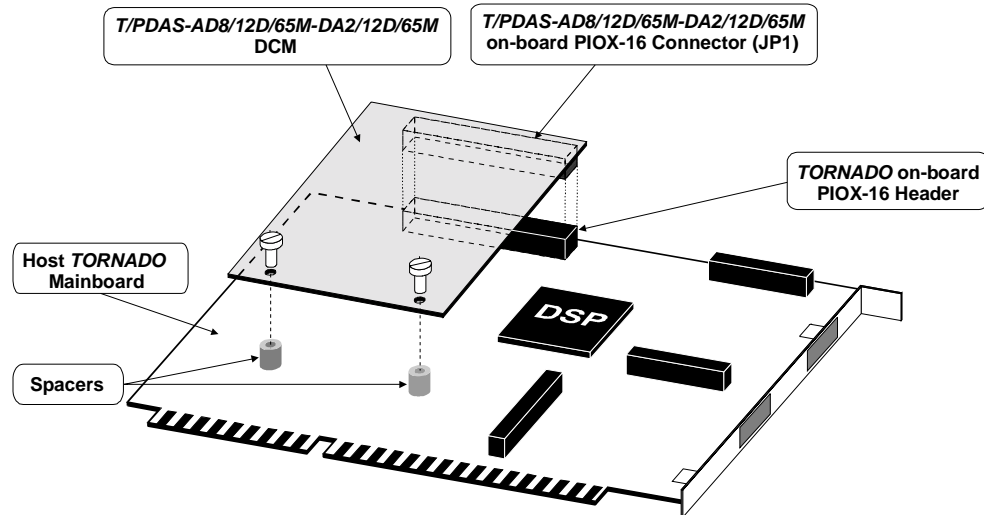
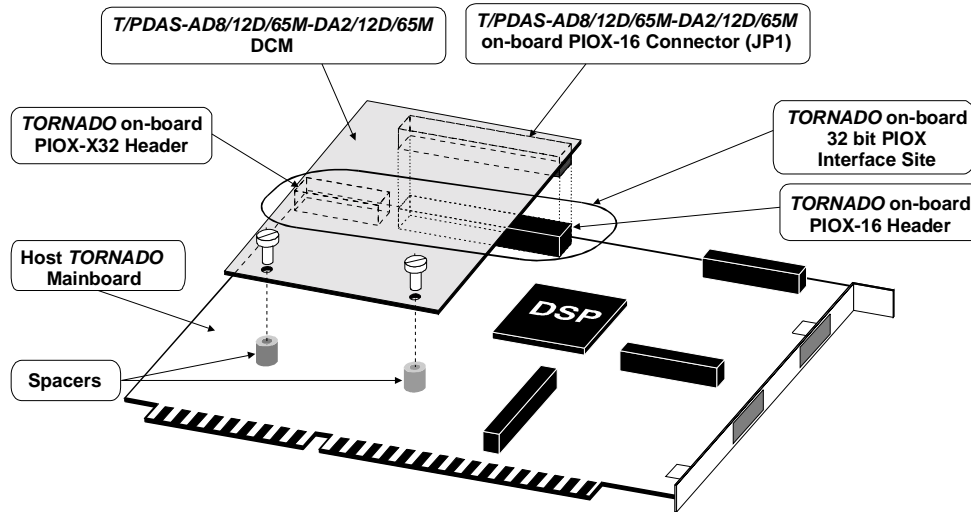

Fig. 3-1a. Installation of *T/PDAS-AD8/12D/65M-DA2/12D/65M* DCM into 16-bit PIOX-16 site of host *TORNADO* DSP system.
Fig. 3-1b. Installation of *T/PDAS-AD8/12D/65M-DA2/12D/65M* DCM into 32-bit PIOX site of host *TORNADO* DSP system.
4. Pick-up *T/PDAS-AD8/12D/65M-DA2/12D/65M* DCM from the shipment packaging and orient it parallel to *TORNADO* mainboard over PIOX-16 DCM area. Safely plug-in on-board JP1 host PIOX-16 site header of *T/PDAS-AD8/12D/65M-DA2/12D/65M* DCM into the corresponding 16-bit PIOX-16 site header of host *TORNADO* mainboard (fig.3-1a). In case host *TORNADO* mainboard provides on-board 32-bit PIOX interface site, then you have to plug *T/PDAS-AD8/12D/65M-DA2/12D/65M* DCM into the 16-bit PIOX-16 sub-connector of host PIOX interface site at host *TORNADO* mainboard (fig.3-1b).